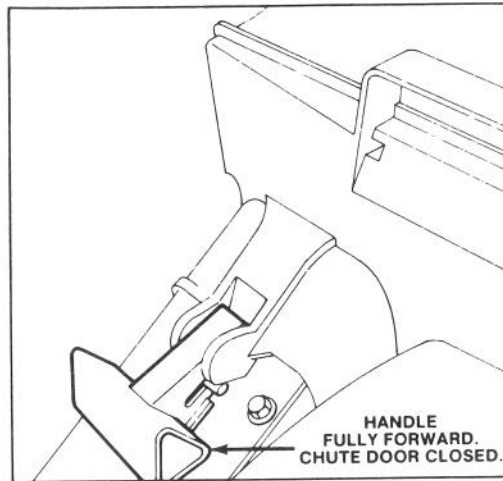

Figure 4
MULCH — In summer, when grass grows slower and is drier, mulch by closing chute door (Fig. 4). For convenience and protection, keep grass bag on mower.
5. EMPTYING BAG — Stop engine and wait for all parts to stop. Move chute door handle forward to engage the locking pin with catch (Fig. 4). Grasp handle at front and rear of bag and lift bag off mower. Gradually tip bag forward to empty clippings.